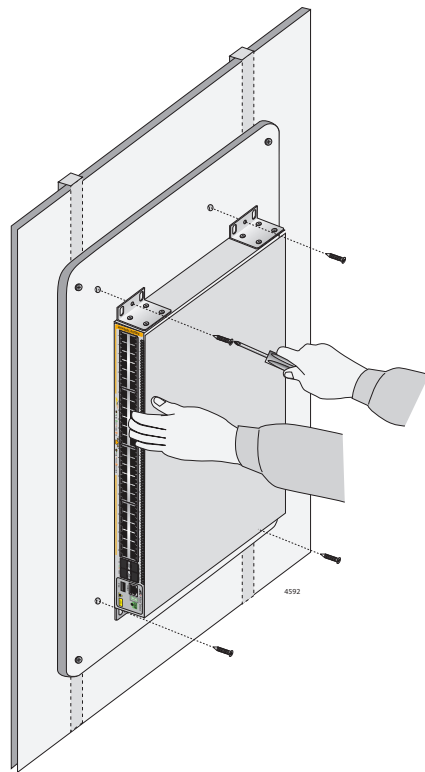

Figure 24. Securing the AT-x530L-52GPX Switches to the Plywood Base
3. After attaching the brackets, have another person hold the switch on the plywood base on the wall while you secure it with the M4x32.3mm screws included with the switch. Refer to Figure 24 for the AT-x530L-52GPX switches.
- ❑ Position it so that the front panel is facing up, left or right. Refer to Figure 24. Do not install it with the front panel facing down.
- ❑ Position it so that the front panel is facing up, left or right. Refer to Figure 24 on page 66. Do not install the switch with the front panel facing down.